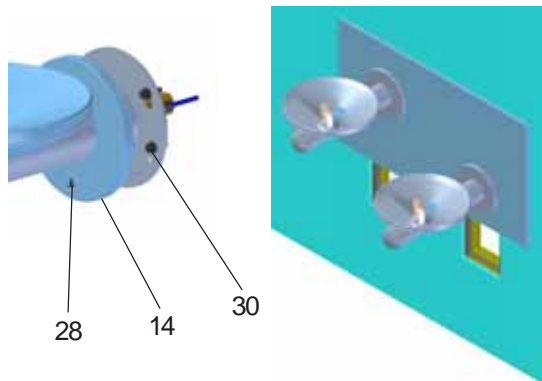

Figure 10 - Fountain Installation
5. **Install fountain.** Remove screw (Item 28) from cover plate and slide cover plate (Item 14) toward basin. (See Figure 10)